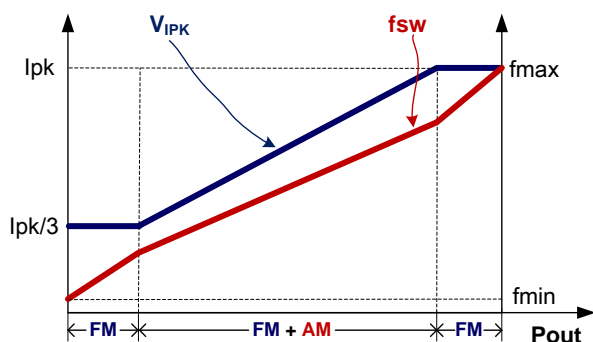

Fig.2
To meet the tight requirement of averaged system efficiency and no load power consumption, a hybrid of frequency modulation (FM) and amplitude modulation (AM) is adopted in KP3116 which is shown in the Fig 2.